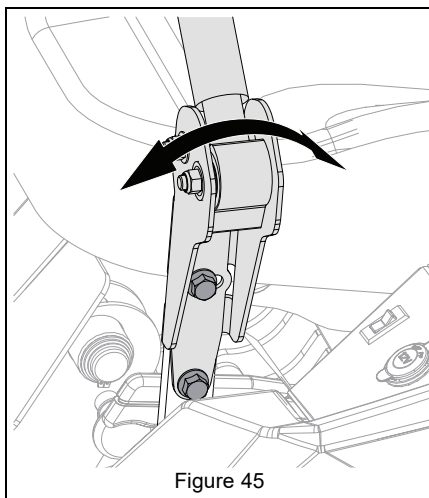

Figure 45
3. Loosen mounting hardware, align levers and tighten hardware. See Figure 45.
See Figure 45.